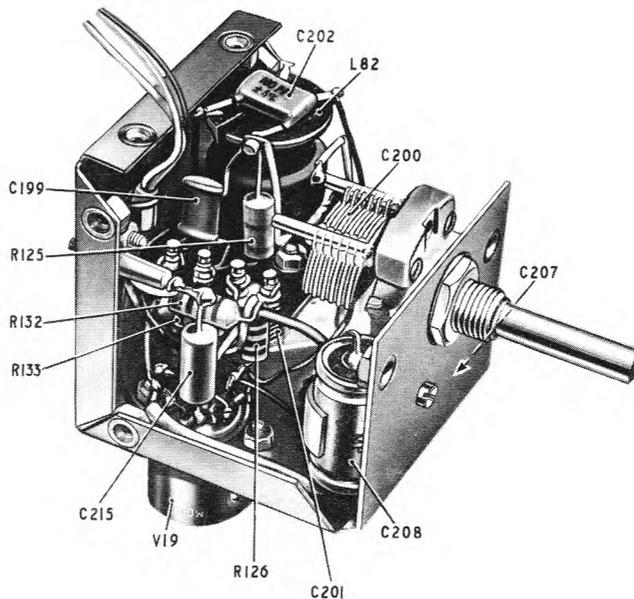

Fig. 3. BFO unit—underside
- (1) System switch Set to CHECK BFO.
- (2) Meter switch Set to RF LEVEL.
- (3) BFO switch Set to downward position.
- (4) BFO NOTE KC/S Set to 0.
71. Locate the trimming capacitor C201 (fig. 3) mounted adjacent to V19 at the front of the 100 kc/s i.f. assembly and adjust it for a zero beat note in the headset. The RF LEVEL meter should indicate approximately half full scale deflection.